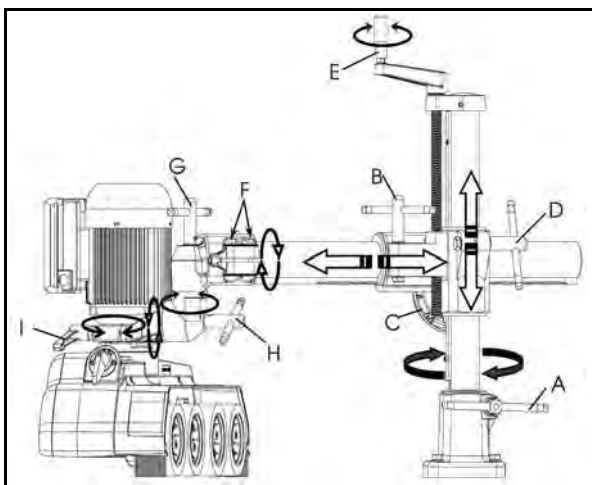

Fig. 27: Overview of functions
Checking: Loosen the lever (Pos. A, Fig. 27) and moving the complete boom arm.
Checking: Loosen lever (Pos. B, Fig. 27) and turn hand-wheel (Pos. C, Fig. 27).
Checking: Loosen lever (Pos. D, Fig. 27) and turn crank (Pos. E, Fig. 27).
Checking: Loosen screws (Pos. F, Fig. 27) and turn
Checking: Opening the lever (Pos. G, Fig. 27) and turn, secure with lever (Pos. H, Fig. 27)
Checking: Opening the lever (Pos. H, Fig. 27) and turn feed vertically
Checking: Opening the lever (Pos. I, Fig. 27) and rotate horizontally.
Step 1: Loosen lever (Pos. B, Fig. 27) and turn crank (Pos. E, Fig. 27) until just before the table. Loosen screws F slightly until the feed can be turned.
Step 1: After horizontal alignment of the rollers, adjust the height of the tripod. Release the lever (Pos. D, Fig. 27) and crank the feed to the desired height.
Step 2: Adjust the parallelism or tolerance by opening lever (Pos. I, Fig. 27).